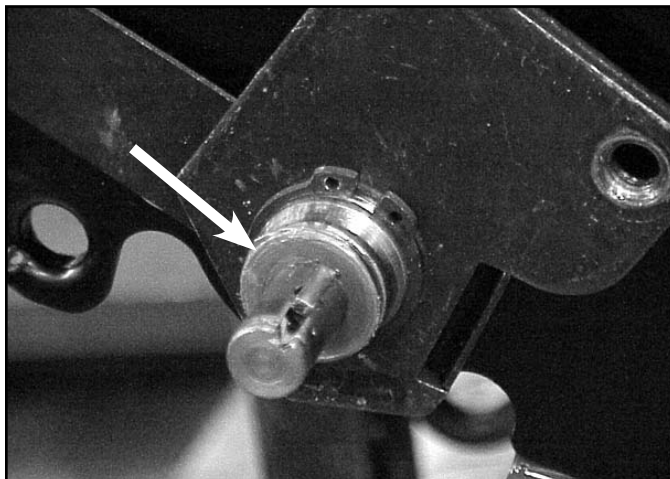

Fig 078
3. Remove the other thrust washer and retaining ring holding the pivot assembly to the axle (Fig. 078).